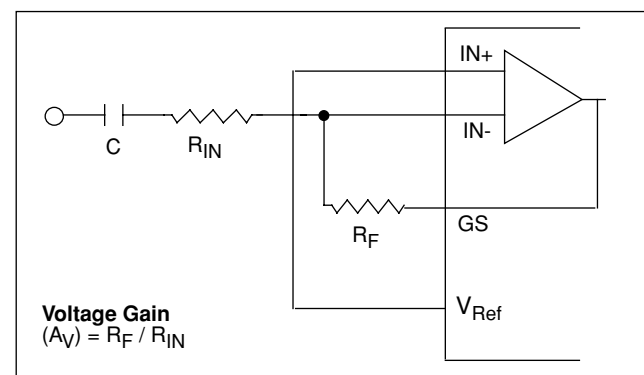
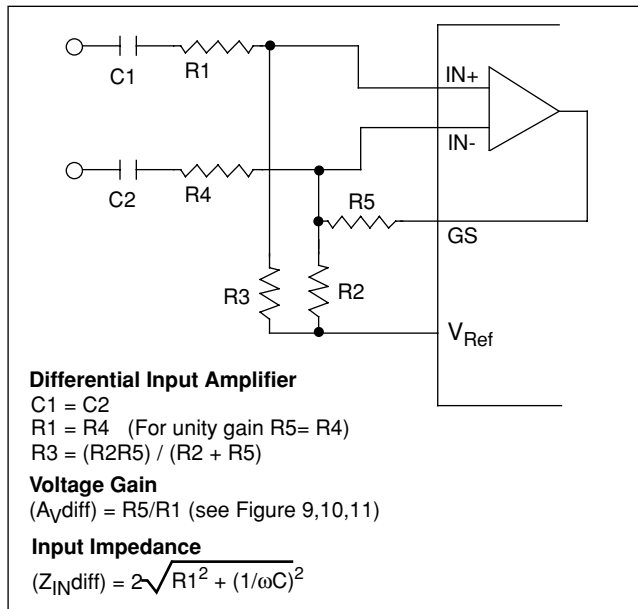

Figure 6 - Single-Ended Input Configuration
Figure 7 - Differential Input Configuration
The MT88E43B provides an input arrangement comprised of an operational amplifier, and a bias source (V_{Ref}) which is used to bias the opamp inputs at $V_{DD}/2$. The feedback resistor at the opamp output (GS) can be used to adjust the gain. In a single-ended configuration, the opamp is connected as shown in Figure 6. For a differential input configuration, Figure 7 shows the necessary connections.